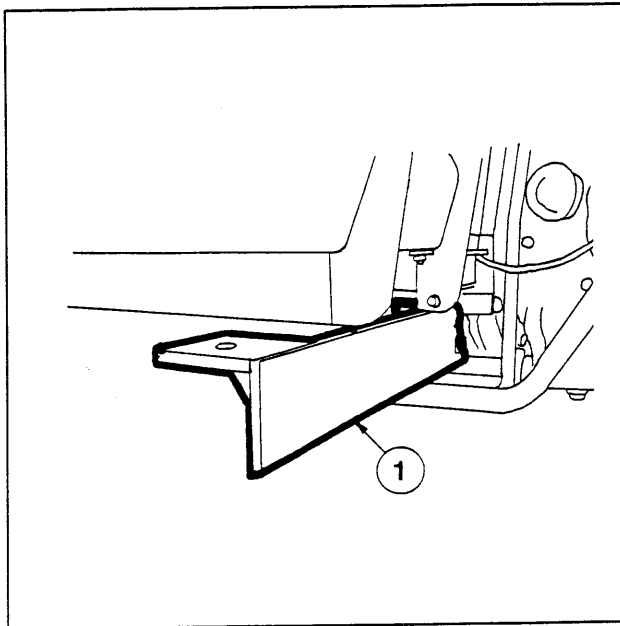

Figure 1
2. Remove the isolation pads from the front platform supports. Bolt the pads to the front brackets (1) using the 3/8"x1" hex bolts, hex nuts, and lockwashers supplied. Ensure that the pads maintain the same orientation. (see Figure 1)
3. Take the right front bracket (1) and position it against the tractor frame, in place of the front platform support. Keep the cab mounting plate towards the rear and outside. Then, bolt the bracket to the frame using the 10x35x1.5mm hex bolts, 3/8" lockwashers, and isolation pad bolt removed in step 1. (see Figure 1)